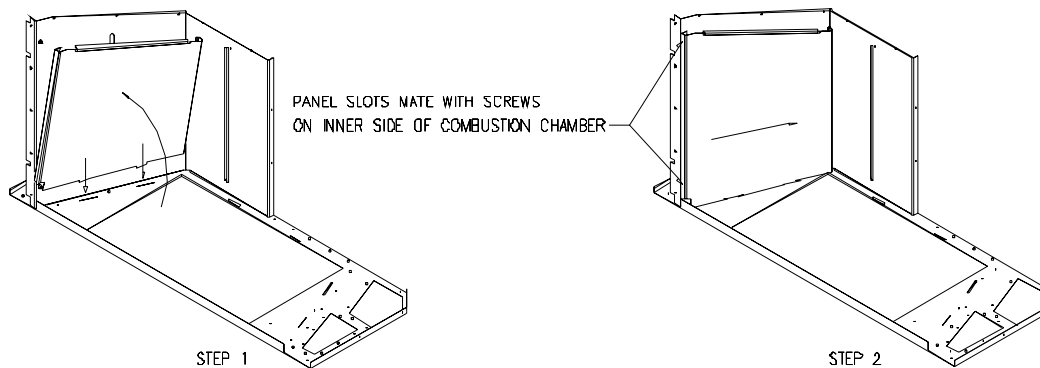

Figure 5.1 Installation of Left and Right Porcelain Panels
2. Position the bottom tabs of the left and right side panels into the slots on the bottom of the combustion chamber, and rotate each into the upright position. Push the panels towards the rear of the unit, making sure to capture the inside lip of the front of each panel with the two screw heads located on each of the combustion chamber sides (see Figure 5.1). There are two slots in each panel that should fit snugly underneath the screw heads. These screws may need to be adjusted in order that the panels are properly secured.